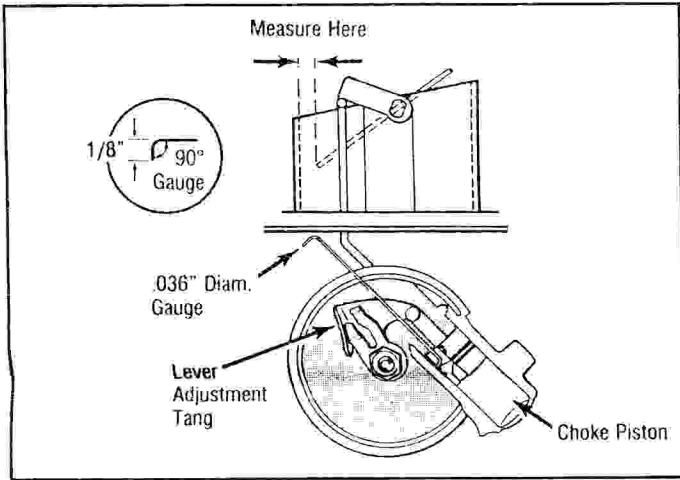

Fig. 10 Choke Pull Down Adjustment (Early Integral Piston Type)
1. With choke coil housing and baffle plate removed, insert a .036" diameter wire gauge into the piston bore until it hooks into the relief in piston bore. See Fig. 10.
NOTE: A gauge can be constructed from a paper clip if necessary. Construct the gauge to the dimensions shown in Fig. 10.